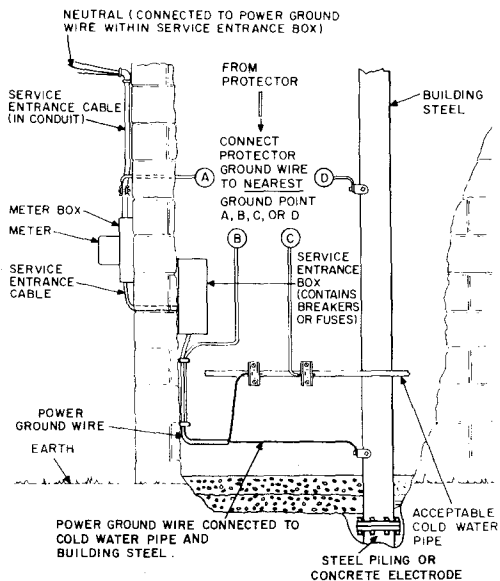

Fig. 32—Acceptable Protector Grounding Connections to the Power Ground
6.01 The first choice for approved ground is some part of the power grounding system (Fig. 32).